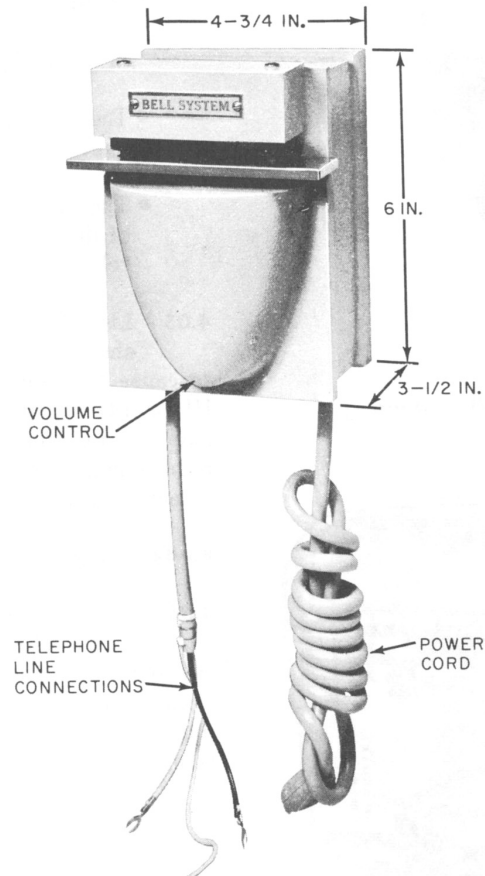

Fig. 9—KS-8229 Signal Chime
4.06 The volume of the KS-8229 signal chime may be adjusted by a screw (Fig. 9). No other adjustment should be made. Should the plunger stick in its guide, remove plunger and clean with mineral spirits. If this does not correct operation, replace signal.